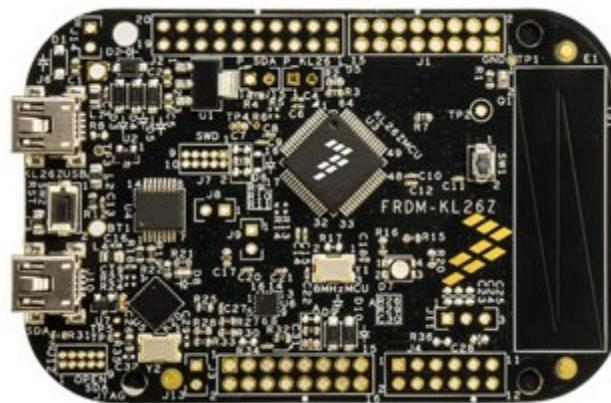

Figure 2. KL26Z Freedom Development Platform (FRDM-KL26Z)
- KL25Z Freedom Development Platform, Figure 2, based on the Kinetis KL2 family MKL26Z128VLH4 MCU